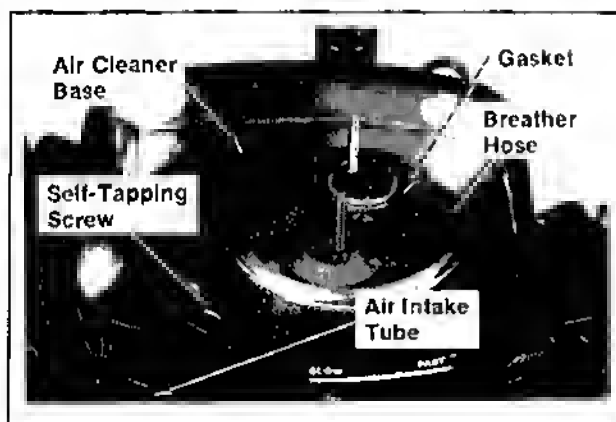

Figure 9-5. Removing Air Cleaner Base.
3. Remove the breather hose, self-tapping screw, air cleaner base, air intake tube, and gasket. Refer to Figure 9-5.